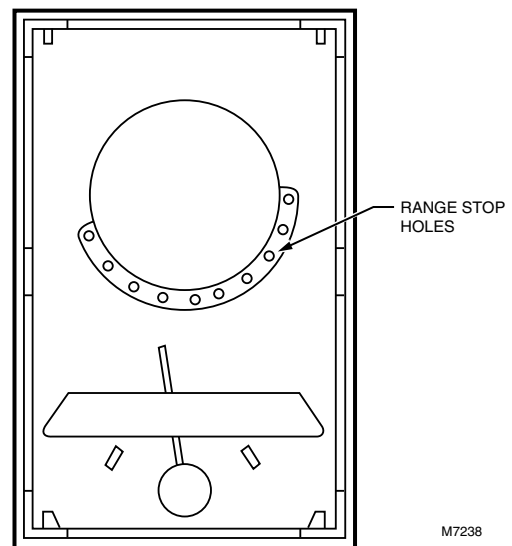

Fig. 5. Range stop installation.
- 2 Install the plastic dowels (included) into the minimum and/or maximum range stop holes on the inside back of the cover. See Fig. 5.